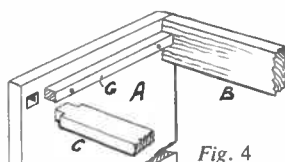
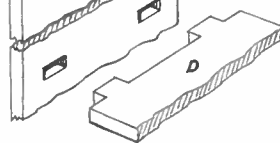

Fig. 4
Fig. 5
It only remains now to make the sliding shelf to go under the top. First, however, glue and screw in the two runners (G) seen in detail in Fig. 4. A sectional diagram of the sliding shelf is shown in Fig. 5, and note here where the back fillet is added, and also how it stops off where it slides between the fillets (G).